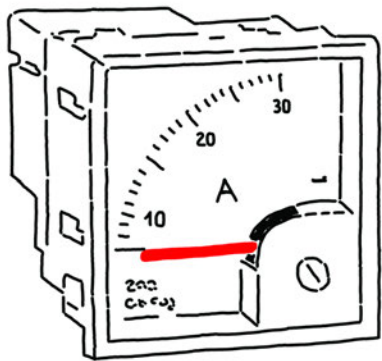

Figure 15-3 *An analog ammeter*
The unit of measurement of electrical current is the *ampere* (A), or amp for short, from André-Marie Ampère, one of the main researchers of electromagnetism. The tool used to measure the strength of an electrical current is the *ammeter*, shown in Figure 15-3.